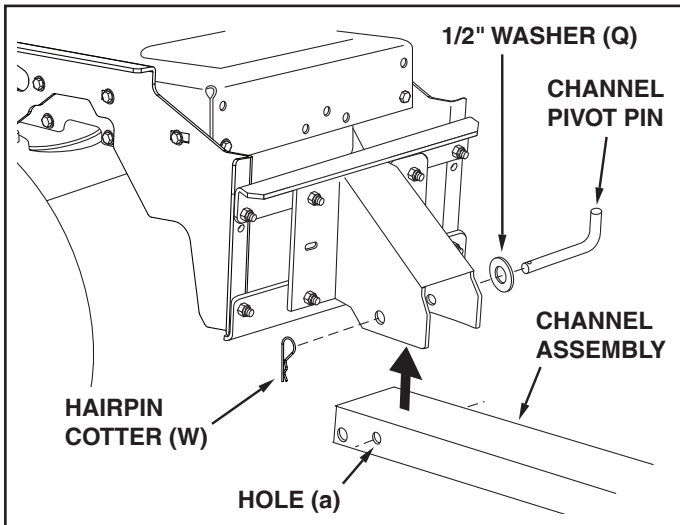

FIGURE 22 (Right Hand Side View)
STEP 8: (SEE FIGURE 22)
- Assemble the large 1/2" washer (Q) onto the channel pivot pin.
- Attach the channel assembly to the tractor by placing the end of the channel assembly up inside the pivot support bracket on the tractor. Align hole (a) in the channel assembly with the hole in the pivot support bracket. Insert the channel pivot pin through the aligned holes from the left side, and secure it with a hairpin cotter (W).